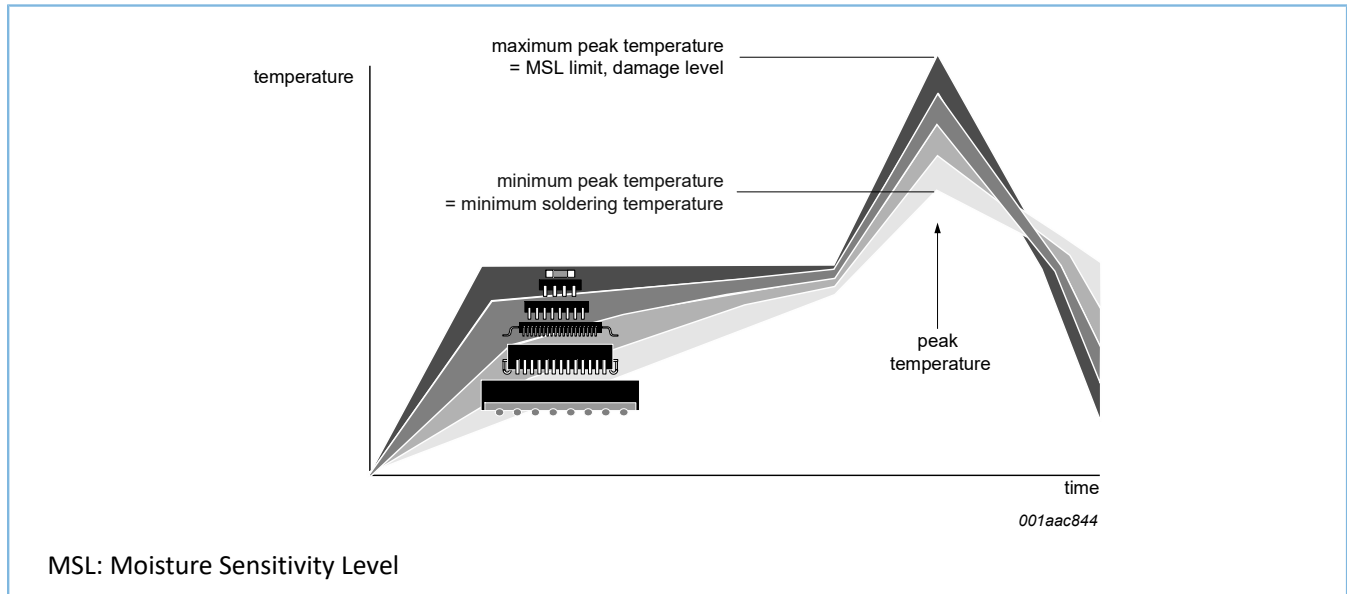

Figure 15-1: Temperature profiles for large and small components
- Lead-free versus SnPb soldering; note that a lead-free reflow process usually leads to higher minimum peak temperatures (see Figure 15-1) than a SnPb process, thus reducing the process window.
Studies have shown that small packages reach higher temperatures during reflow soldering (see Figure 15-1).